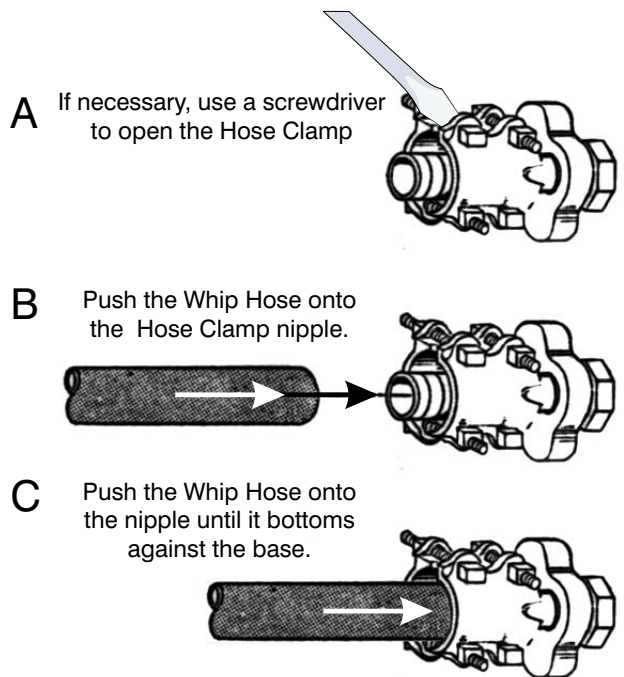

Figure 9-30. Secure Whip Hose in Hose Coupling Clamp.
- 5. Once the clamp is loose, fit one end of the Whip Hose over the nipple of the Hose Coupling as shown in Figure 9-30-B.